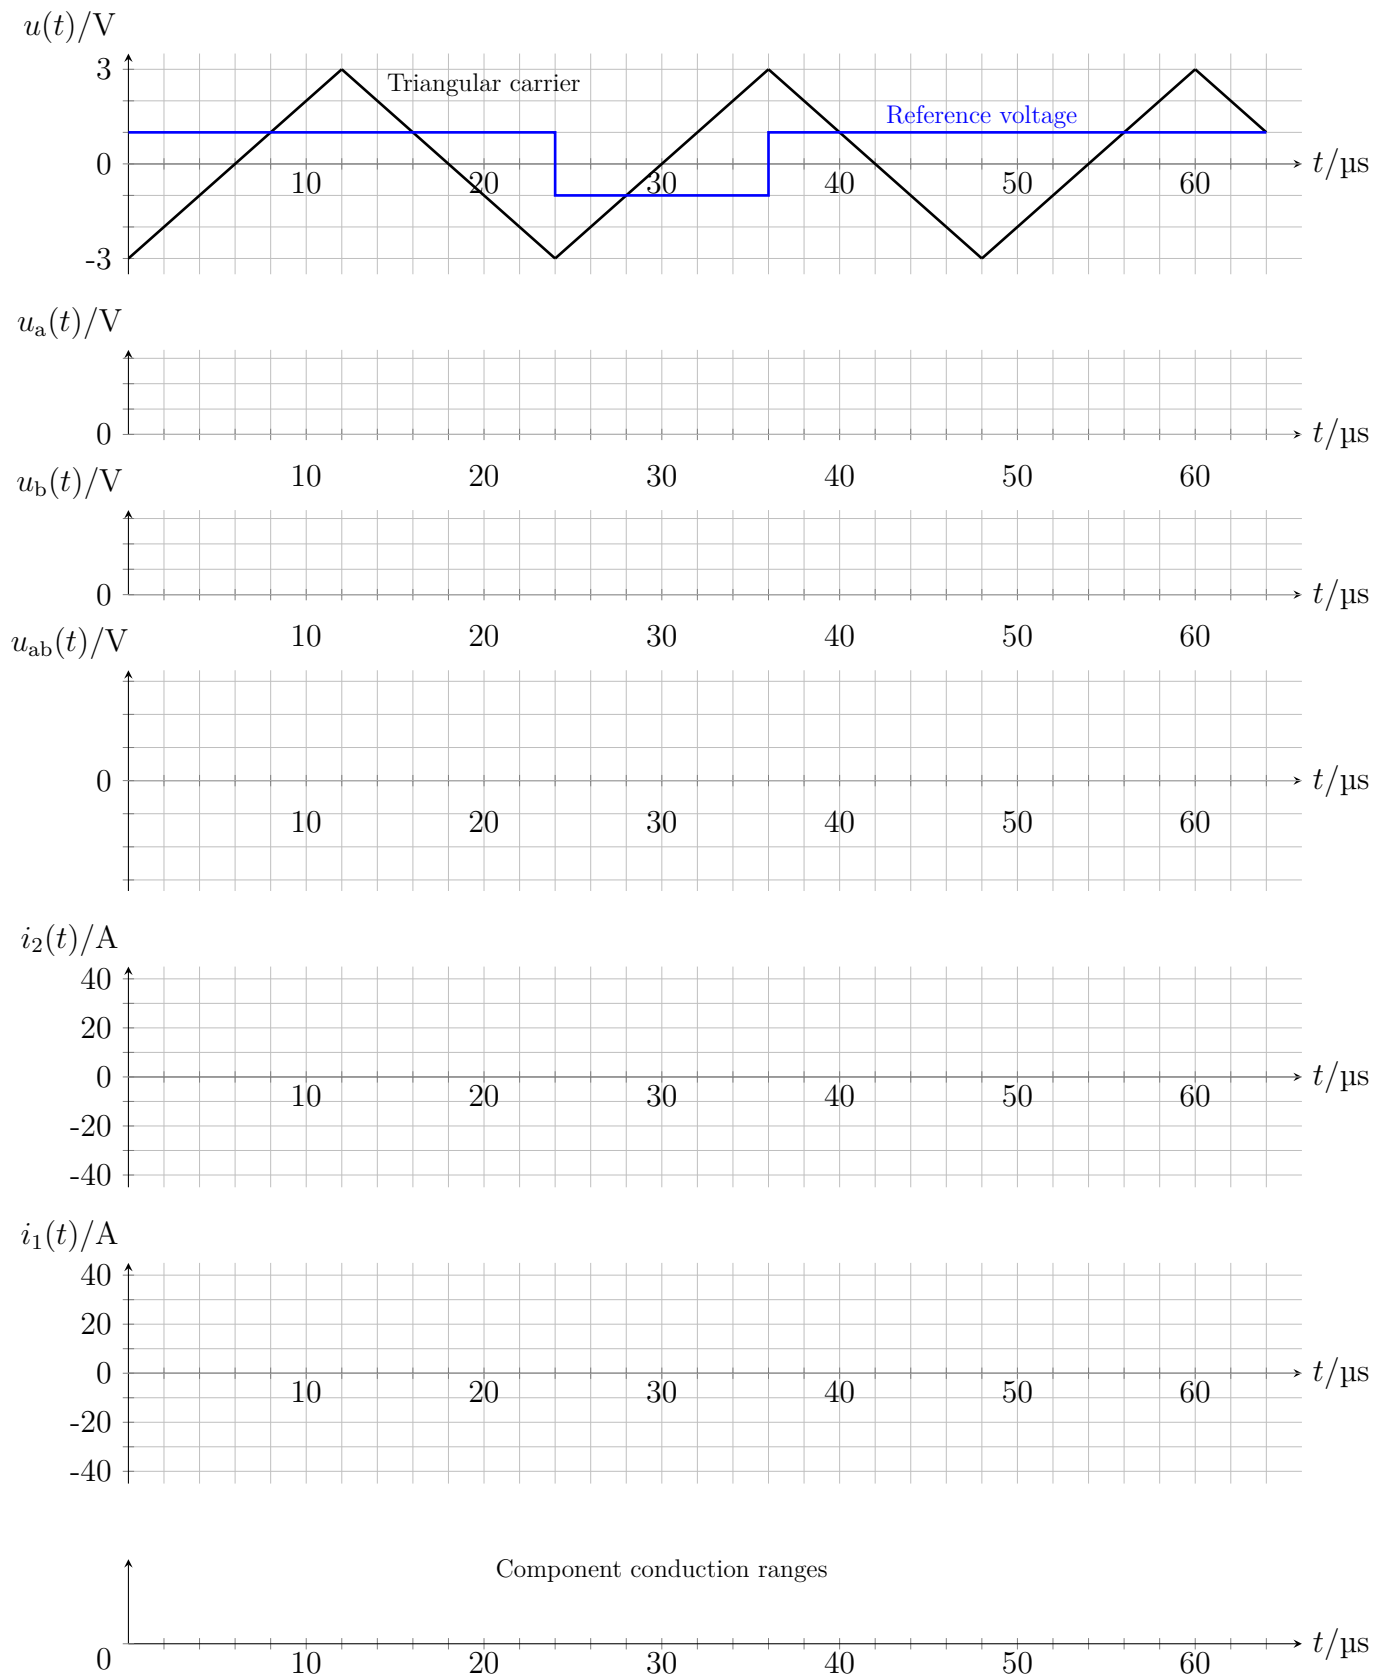

Figure 3: Relevant voltage and current signals of the four-quadrant converter.
2.1 Add the voltage signals of  $u_a(t)$ ,  $u_b(t)$  and  $u_{ab}(t)$  to the diagram in Fig. 3 and and complete the axis scaling of the ordinates. [3 Points]